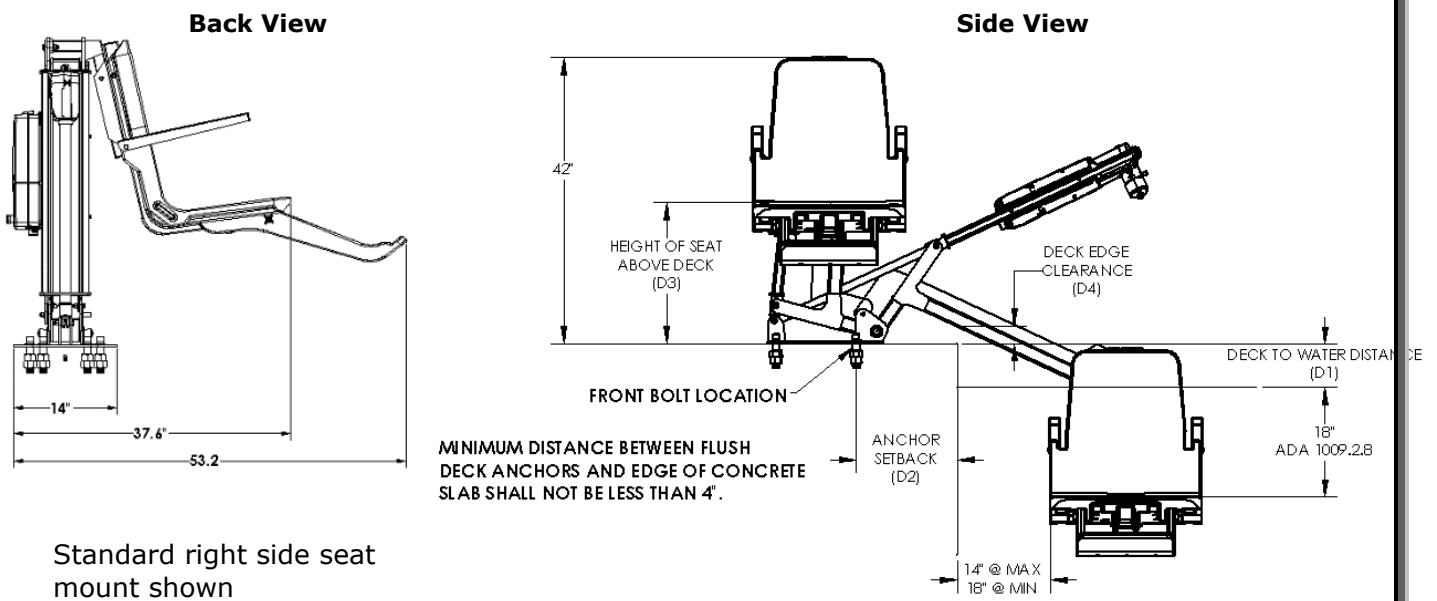

Figure 10. Installation Layout
12. Attach seat assembly with bolt and thumbnut in appropriate hole. Refer to **Figure 10** and **Table 1** to determine the correct seat mounting hole to use. Also see **Figure 6.**
The optimal mounting distance for the deck front anchors is 12.5"/ 31.75 cm from the edge of the pool. The front anchors can be installed up to a maximum of 17"/43.18 cm from the edge of the pool, but the deck edge clearance decreases the farther the lift is installed from the pool edge. The setback distance from the pool edge to the front anchor locations varies depending upon pool geometry. The ML300 is designed to be used with simple pool edge designs with deck to water level differences of 0" to 8" maximum. Review **Figure 10** and **Table 1** to determine the correct seat mounting location and anchor installation setback for your pool.
3. Use **Figure 10** and **Table 1** to determine the proper location to install the lift, making certain that the front anchors are located the correct distance from the pool edge.
2. Use **Figure 10** and **Table 1** to determine the proper location to install the lift, making certain that the front anchors are located the correct distance from the pool edge.